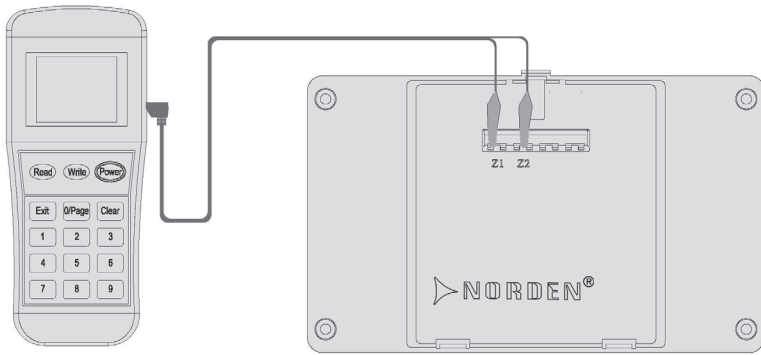

Figure 4: Programming tool Connection Detail
1. Connect the programming cable to Z1 and Z2 terminals (Figure 4). Press “**Power**” to switch on the unit.